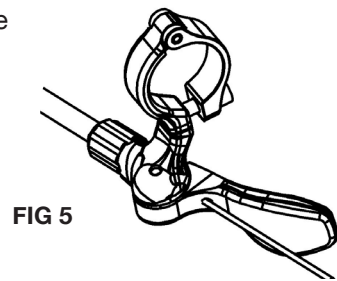

FIG 5
8. Install cable housing thru housing and thru barrel adjuster so the inner cable comes out the back side (FIG 5).